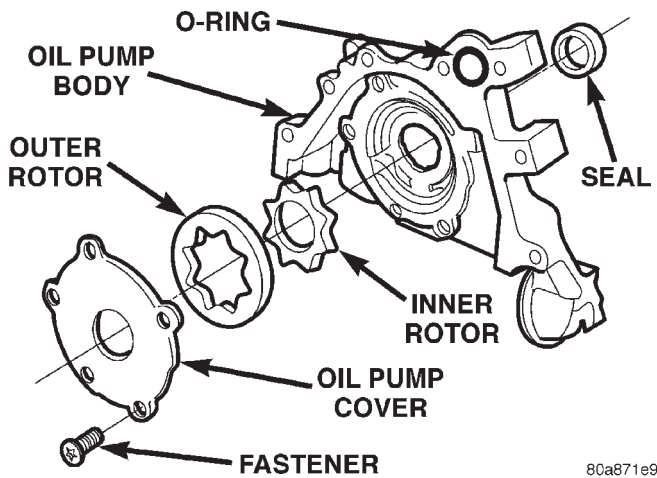

Fig. 99 Oil Pump
(1) Clean all parts thoroughly. Mating surface of the oil pump should be smooth (Fig. 99). Replace pump cover if scratched or grooved.